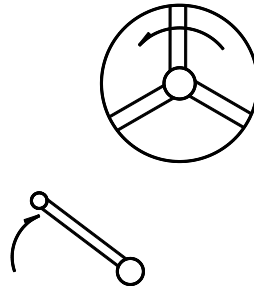

Fig. 11 Operating handle for forward / reverse of spindle and rotating direction of spindle
For relationship between the operating directions of the handle (7) for forward and reverse of spindle of the machine and running direction of the spindle, see Fig.11. The handle is shifted up, the spindle makes counter clockwise rotating movement.